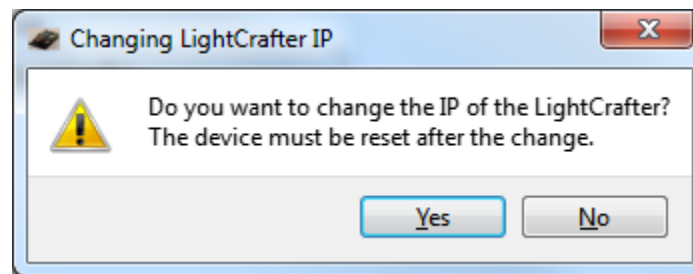

Figure 2-21. DLP LightCrafter GUI Changing IP Popup
5. A popup window, as shown in Figure 2-21, will ask "Do you want to change the IP of the LightCrafter?" Click "Yes."